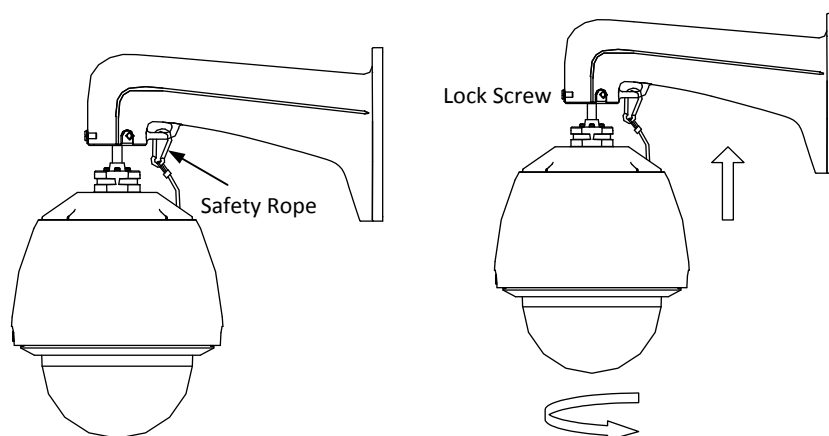

Figure 1-8 Install the Speed Dome
- 1) Hang the safety rope to the speed dome and the hook on the bracket as shown in Figure 1-8.